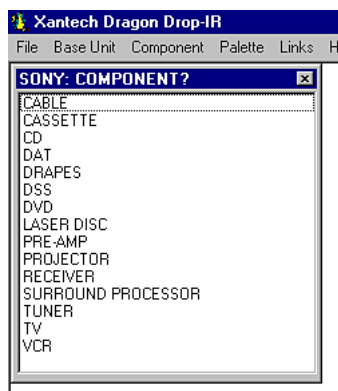

Figure 3 - Components
3. Locate and Select (single click) the type of COMPONENT as shown in **Figure 3** (DVD, SAT etc) (See later sections for adding types).